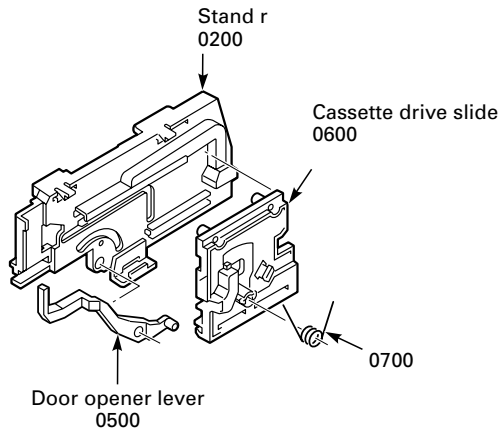

Fig. 8.4
- Unhook the spring (0700, Fig. 8.4).
- Move the cassette drive slide (0600) fully backwards and remove it from the right stand (0200, Fig. 8.4).
- Subsequently the door opener lever (0500) can be removed (Fig. 8.4).